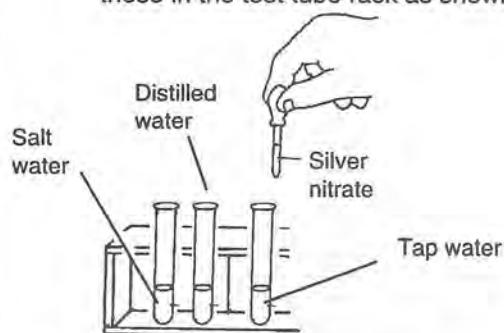

Fig 21 Establishing a test for salinity
Step 2. Fill three test tubes with small amounts of distilled water, tap water and the made-up saltwater as shown in Figure 21 and place these in the test tube rack as shown.